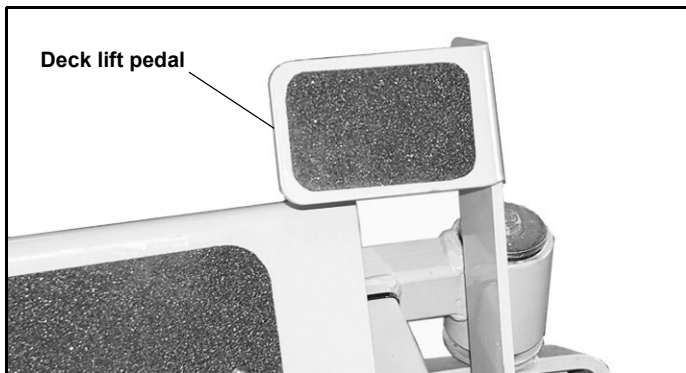

Figure 3-5
- B. Deck lift pedal (Figure 3-5)** — the deck lift pedal is used to raise or lower the deck. Push on the pedal to raise the deck and then place the deck height locking pin into the desired cutting height hole.